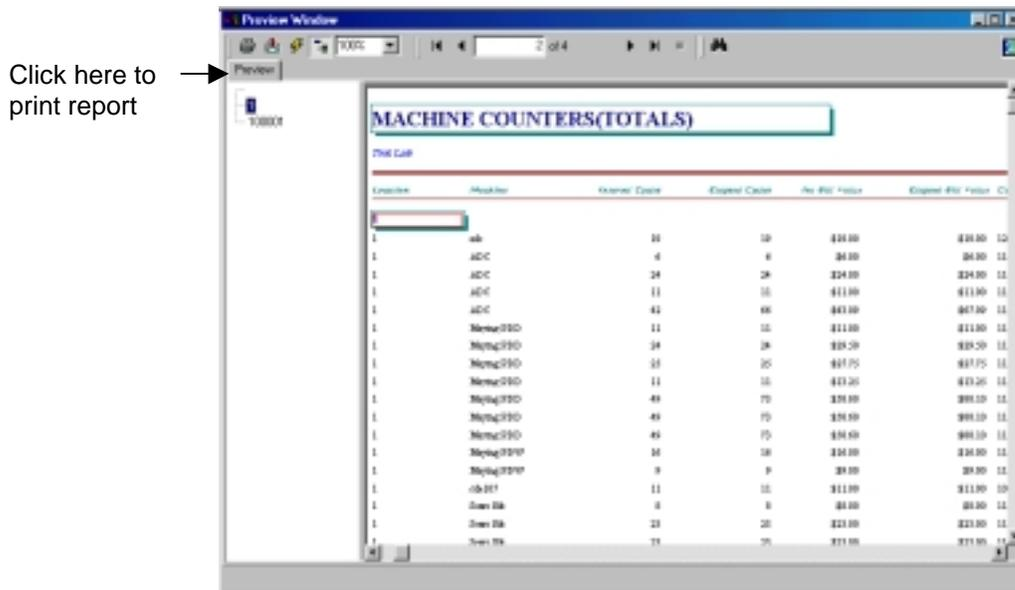

Figure 8.39 Viewing the Machine Counters Report
- The report will be generated and appear on your screen. Either view the report on the screen, or click the printer icon to print the report (Figure 8.39).